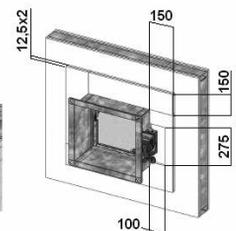

FIG.6
- 7 - Reinforce the walls with a double layer of plasterboard panels (length = 150 mm + nominal damper size / width = 150 mm / thickness = 12,5 mm) on both sides of the damper, making sure to create a suitably sized compartment in the external panel to house the control unit. (fig.6)